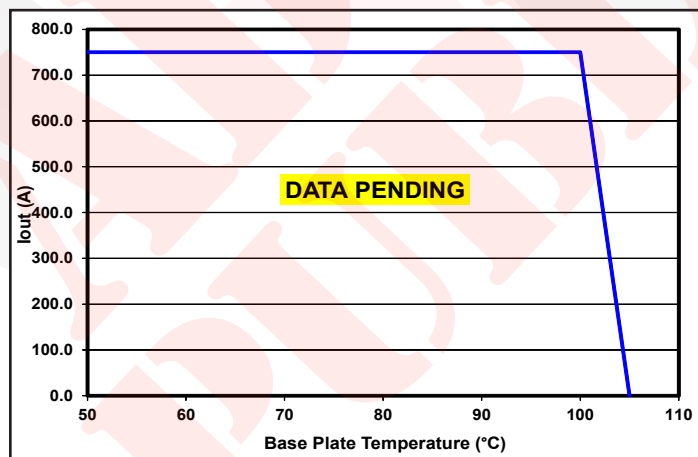

Figure 5: Maximum output current vs. base plate temperature (nominal input voltage).
**Thermal Considerations:** The maximum operating base-plate temperature,  $T_{B\theta}$ , is 100 °C. Refer to the thermal derating curve, Figure 5, to see the available output current at baseplate temperatures below 100 °C.